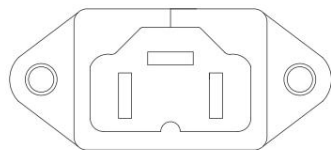

Figure 4-16
3. Charger socket (see Figure 4-16). To charge, insert the charger connector into the battery charging socket.